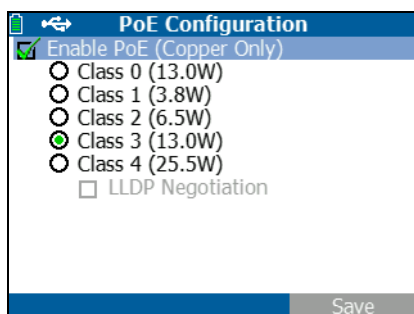

Figure 19. PoE Configuration on LR-AT model 1000
If the LinkRunner AT is a 2000 model, you also have the option of enabling TruePower™. TruePower applies a load equivalent to the selected class to mimic a Powered Device (PD). See Figures 19 and 20.